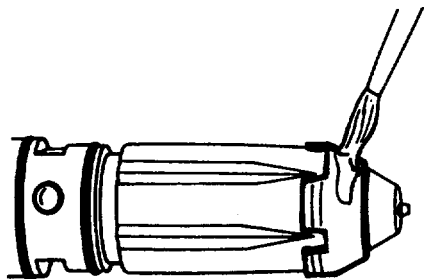

FIGURE 4-16. Dummy Injector.
- (c) Apply a thin coating of Prussian Blue on the injector sealing ring (FIG. 4-16).